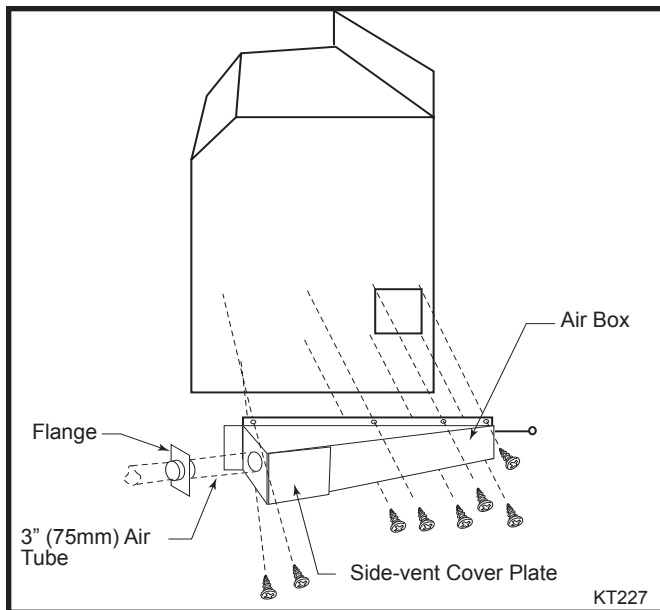

Fig. 50 The outside air duct box may be vented to the rear, as shown here, or from the side.
c. The outside air duct is shipped with a cover plate over its access port for side venting. If your installation will be side venting, remove the cover plate from the side of the air duct and re-fasten it over the rear-venting access port. (Fig. 50)